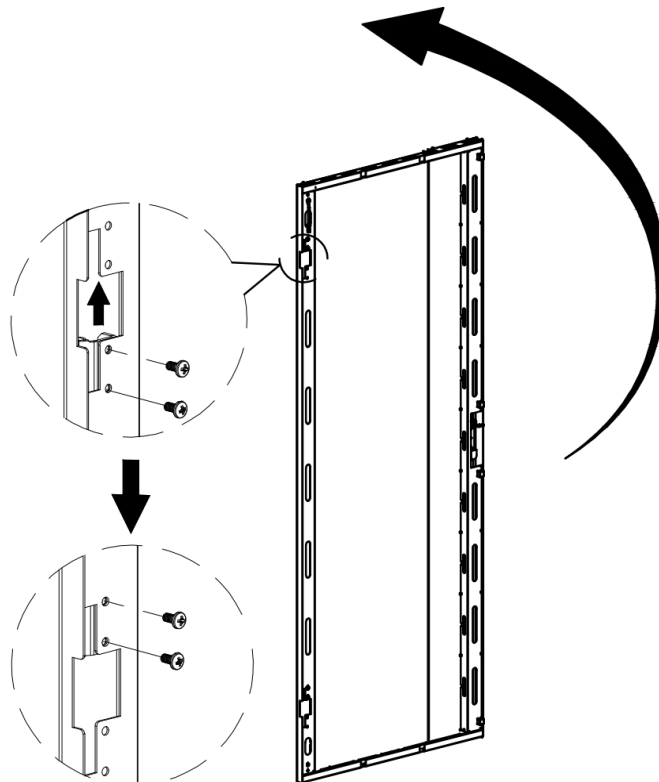

Figure 6.3.8
- Rotate the front door. And move the female hinge upwards, a torque of 73.2 lb-in (8.2 N•m). (Figure 6.3.8)